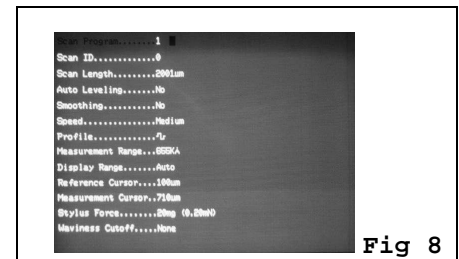

Fig 8
2. Press **PRGM** to display Scan Parameter screen. [Fig 8]
6. Use **▲** or **▼** to highlight Speed. [Fig 8]
12. Press **▲** or **▼** to highlight Measurement Range. [Fig 8]